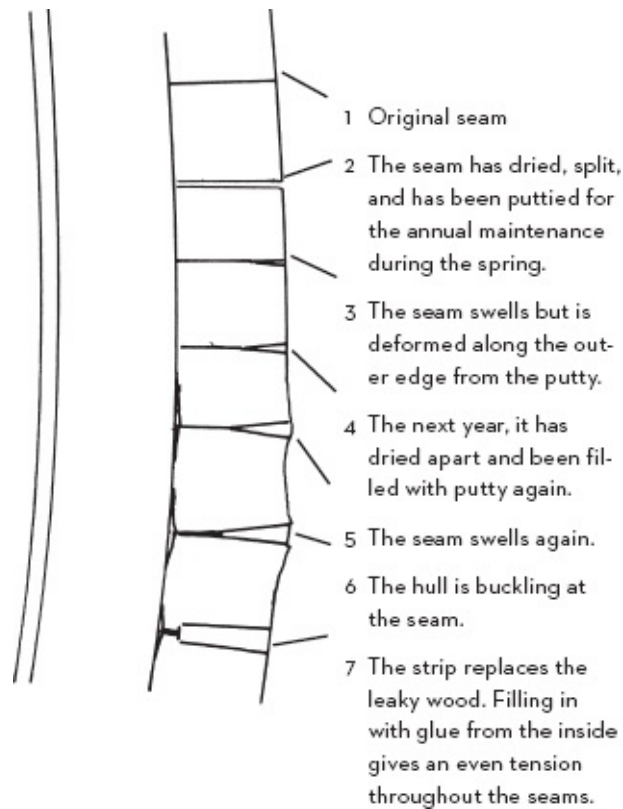

FIGURE 85 } The effect of spackling leaky seams.
- 10 *Wipe off excess glue.* Wipe off the surplus glue from the planking, leaving only a small amount next to the strips. Make sure there's no surplus on the inside; if the boat has been leaky, then the cracks on the inside may be filled in with the surplus glue. A leaky plank that is just filled from the outside year after year will compress and detach from the ribs, but if the whole joint is filled with the strip and glue, then the plank will swell more evenly (see Figure 85).